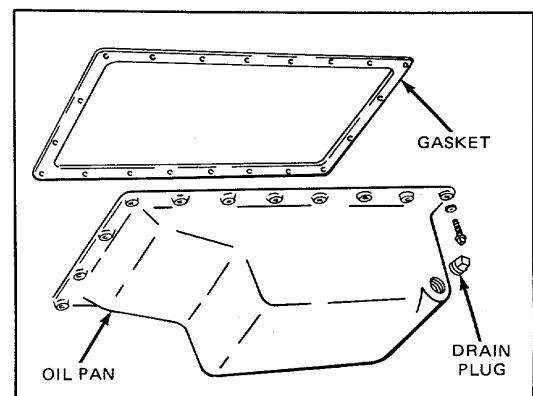

Figure 11.
2. Install the spider cover with capscrews and lockwashers. Fill arrow must be in line with hub fill plug (refer to Fig. 11).
1. Turn the complete hub and drum assembly so that the fill plug is at the top (refer to Fig. 11).
2. Remove the fill plug and the oil level plug in the cover (refer to Fig. 11).